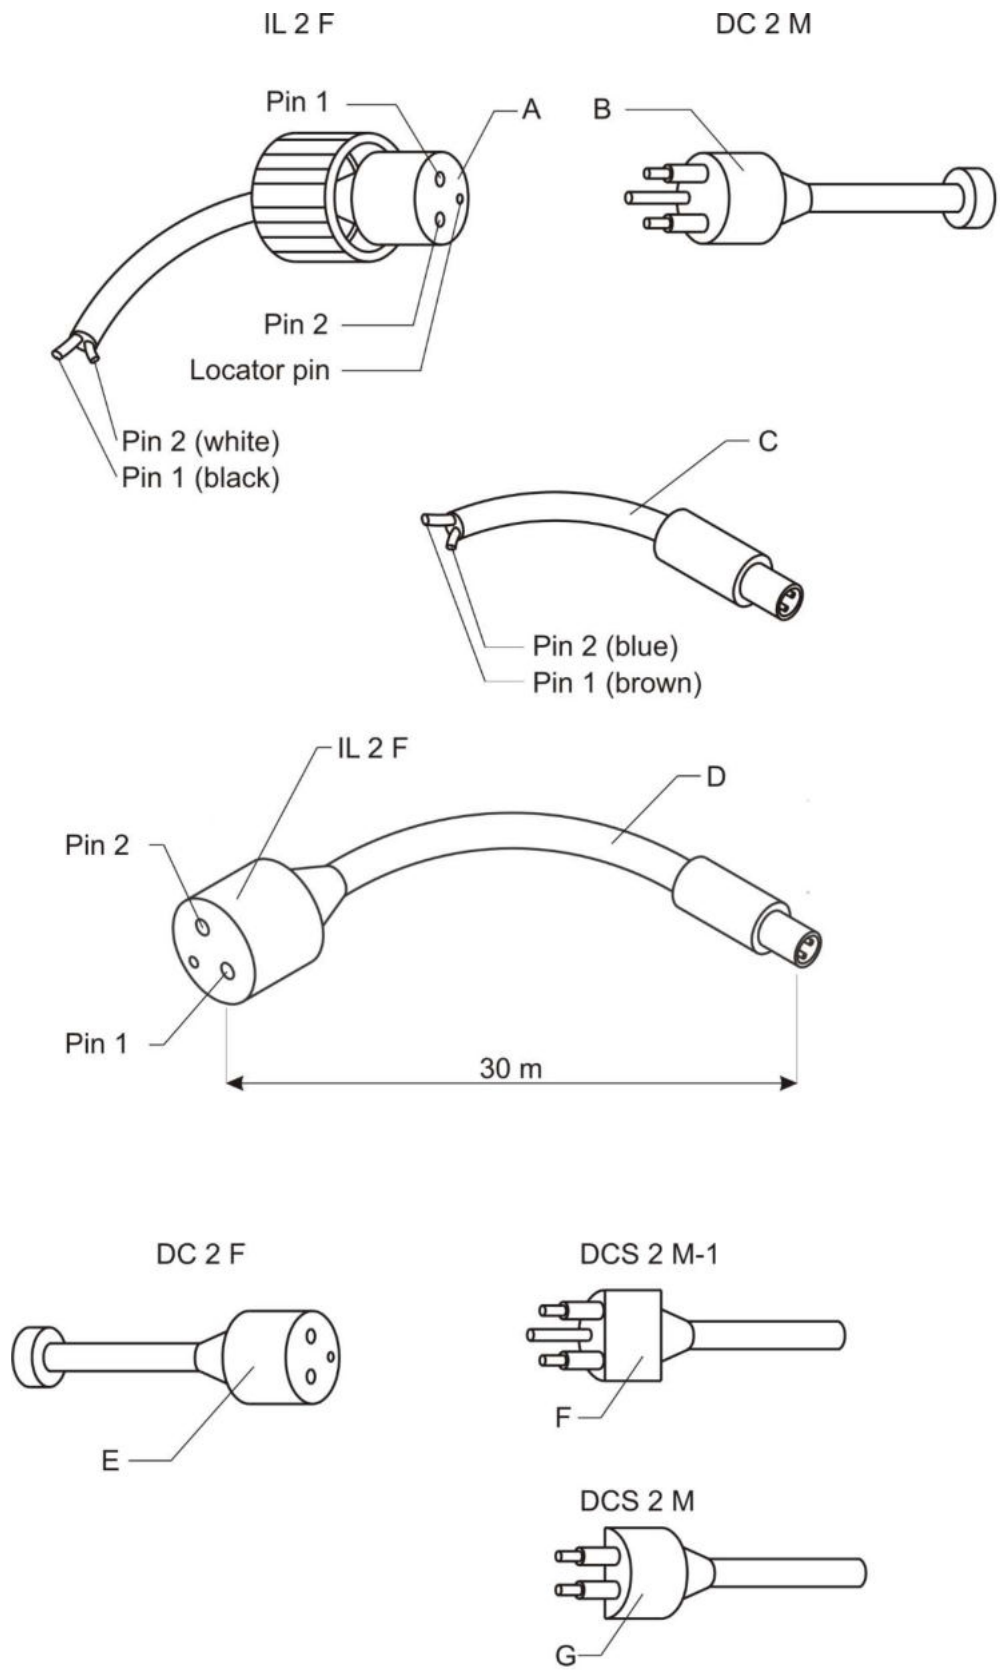
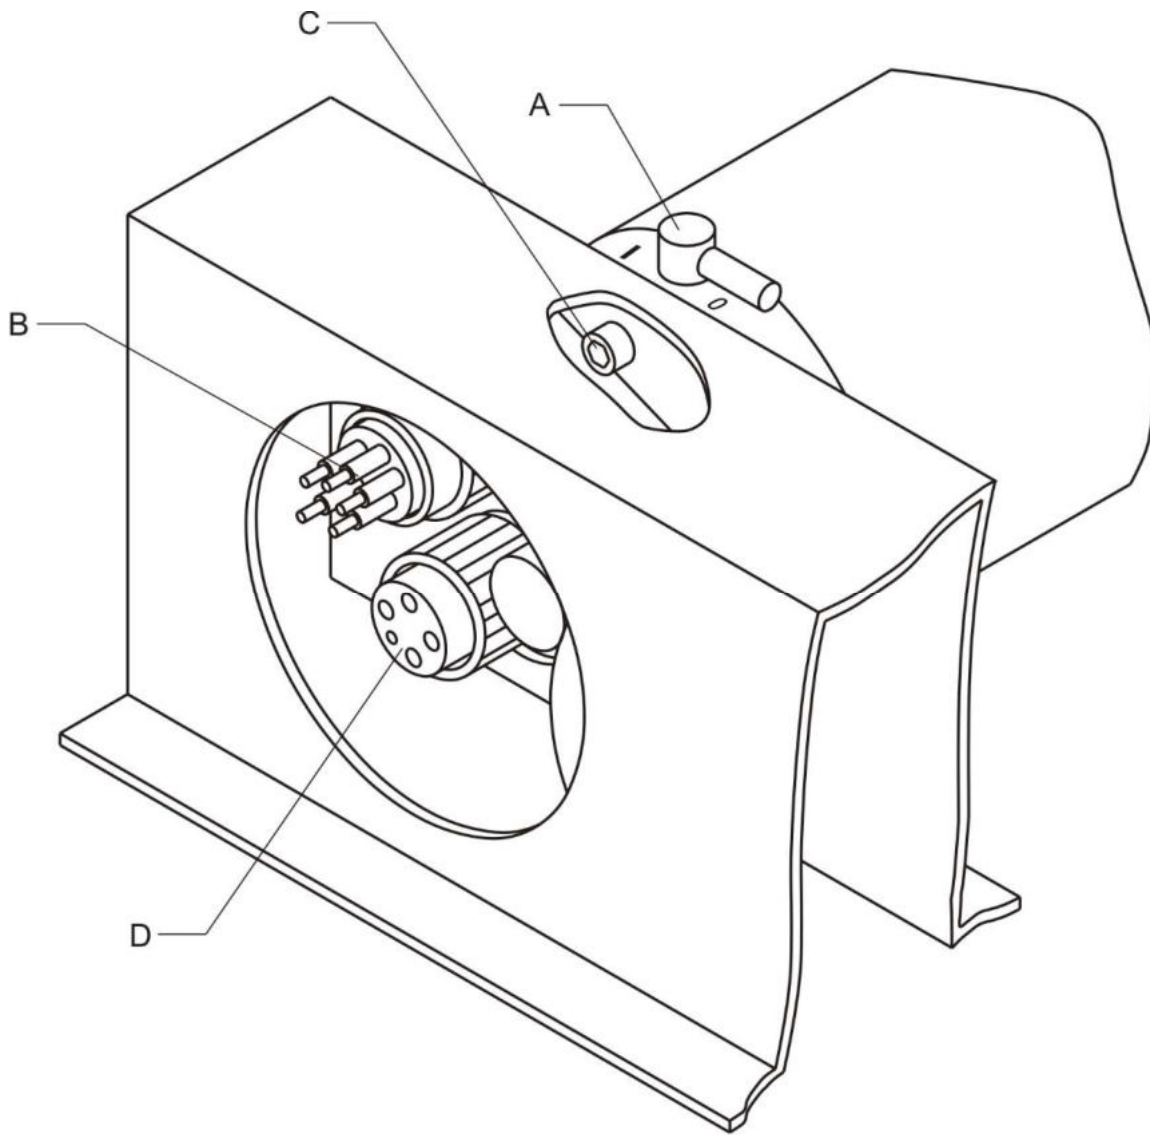

Fig 1
Fig 2
2. Disconnect the cables for the Electronic Flowmeters from the connector SUBCONN BH 4 F (Fig. 2 D).
3. Unscrew the 3 hexagon socket screws M 6 which are located inside the gear box (Fig. 2 C).
1. Connect the test run cable to the dismantled Motor Unit (with Battery Housing connected) (Fig. 1 D, Fig. 2 B).
4. Switch lever switch at the Motor Unit into position I (Fig. 2 A), the display indicates the MAIN SCREEN (see DECK COMMAND UNIT, page 10).
9. The Motor Unit is synchronized and ready for mounting. The display indicates **NET 0**. Switch lever switch at the Motor Unit into position **O** (Fig. 2 A).
12. Remount the Motor Unit without distorting the position of the steering cylinder. Remount the 3 hexagon socket screws M 6 from the inside of the gear box (Fig. 2 C). Care for a small slackness between gearwheel of the Motor Unit and the gear wheels of the gear box.
13. Slightly grease the pins of the cables for the Electronic Flowmeters with pin lubricant and connect them to the connector SUBCONN BH 4 F at the Motor Unit (Fig. 2 D).
1. Carry out a FIRST TEST RUN (page 14) by using the test run cable (Fig. 1 D). In case of success the fault has to be located in the cable connection from Deck Command Unit to Underwater Unit.